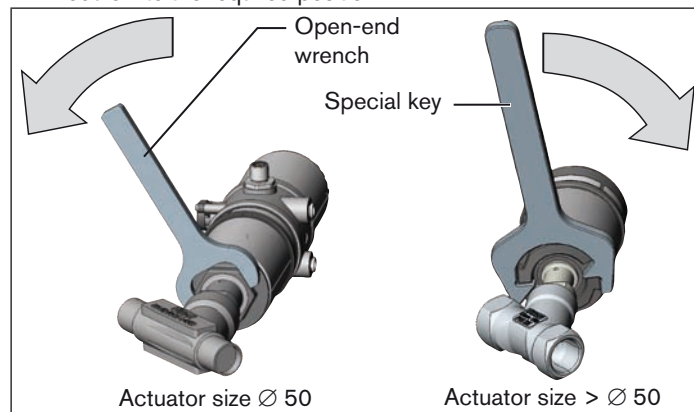

Fig. 16: Rotating with special key / open-end wrench
- Rotate the actuator module in the specified direction only (see "Fig. 16:")!